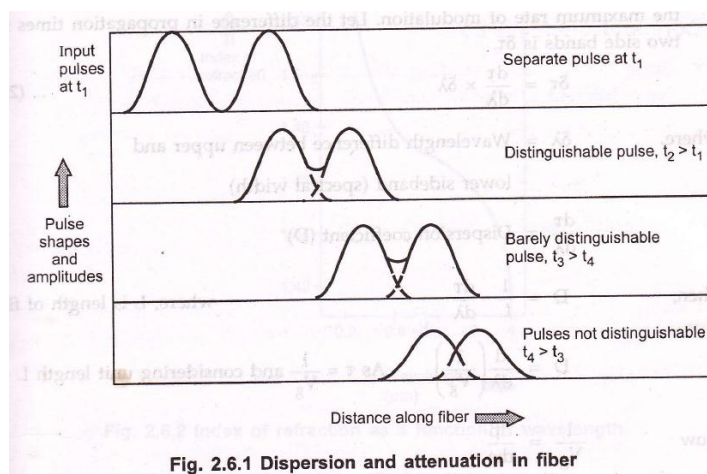

Fig. 2.6.1 Dispersion and attenuation in fiber
- Dispersion and attenuation of pulse travelling along the fiber is shown in Fig. 2.6.1.
- Fig. 2.6.1 shows, after travelling some distance, pulse starts broadening and overlap with the neighbouring pulses. At certain distance the pulses are not even distinguishable and error will occur at receiver. Therefore the information capacity is specified by bandwidth-distance product (MHz . km). For step index bandwidth distance product is 20 MHz . km and for graded index it is 2.5 MHz . km.